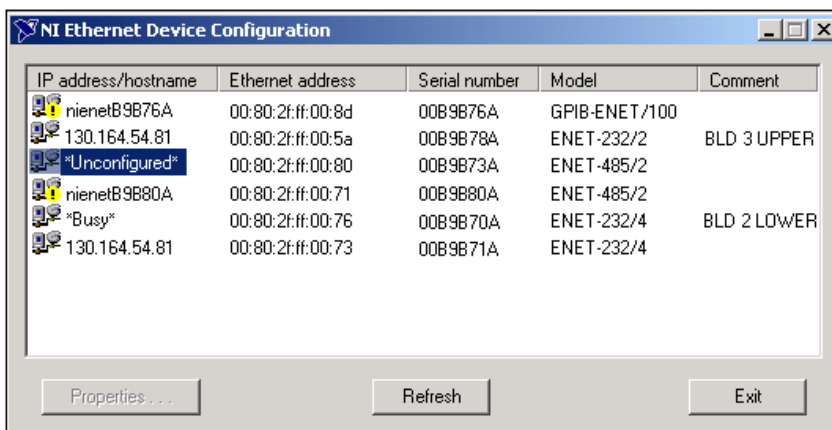

Figure 3-1. NI Ethernet Device Configuration Window
1. Locate the device that has a problem. This is indicated by an (!) on the device icon, as shown previously in Figure 3-1.